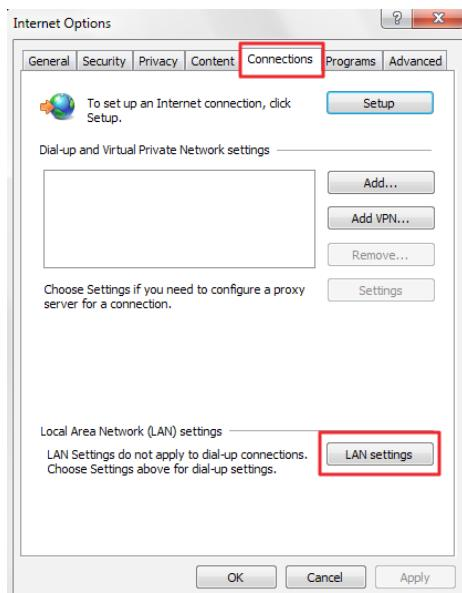

Figure 4-26 Connections tab in IE Internet Options
- » Click the Connections tab in the Internet Options dialog box. Click LAN Settings (Refer Figure 4-26)